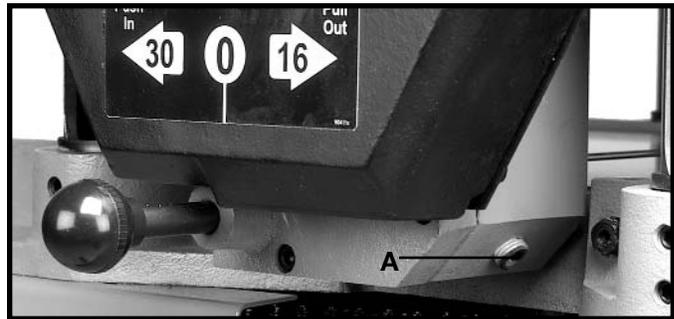

Fig. 53
The gear box oil should be changed once a year. Use extreme pressure gear oil, available from Delta in one pint cans (you will need approximately 20 oz.). The gear box drain plug is shown at (A) Fig. 53. The oil fill and level plug is shown at (B) Fig. 54.